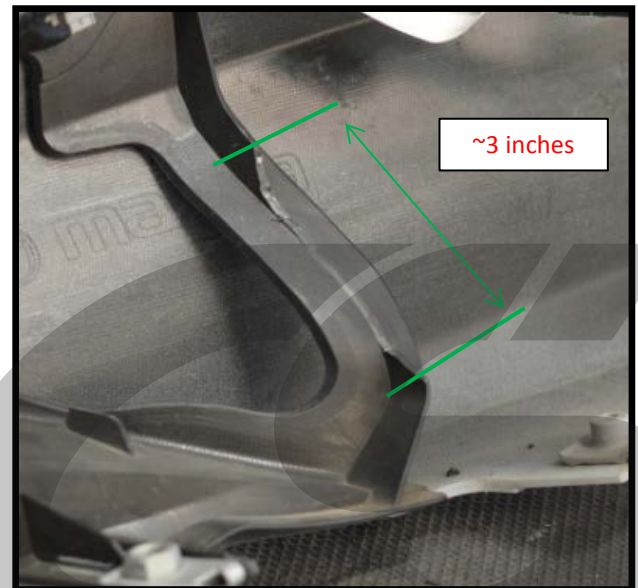

Figure 14c
- Measure 3 inches up from your mark, then cut the 3 inch section of vertical rib off. Shown in Figure 14c.